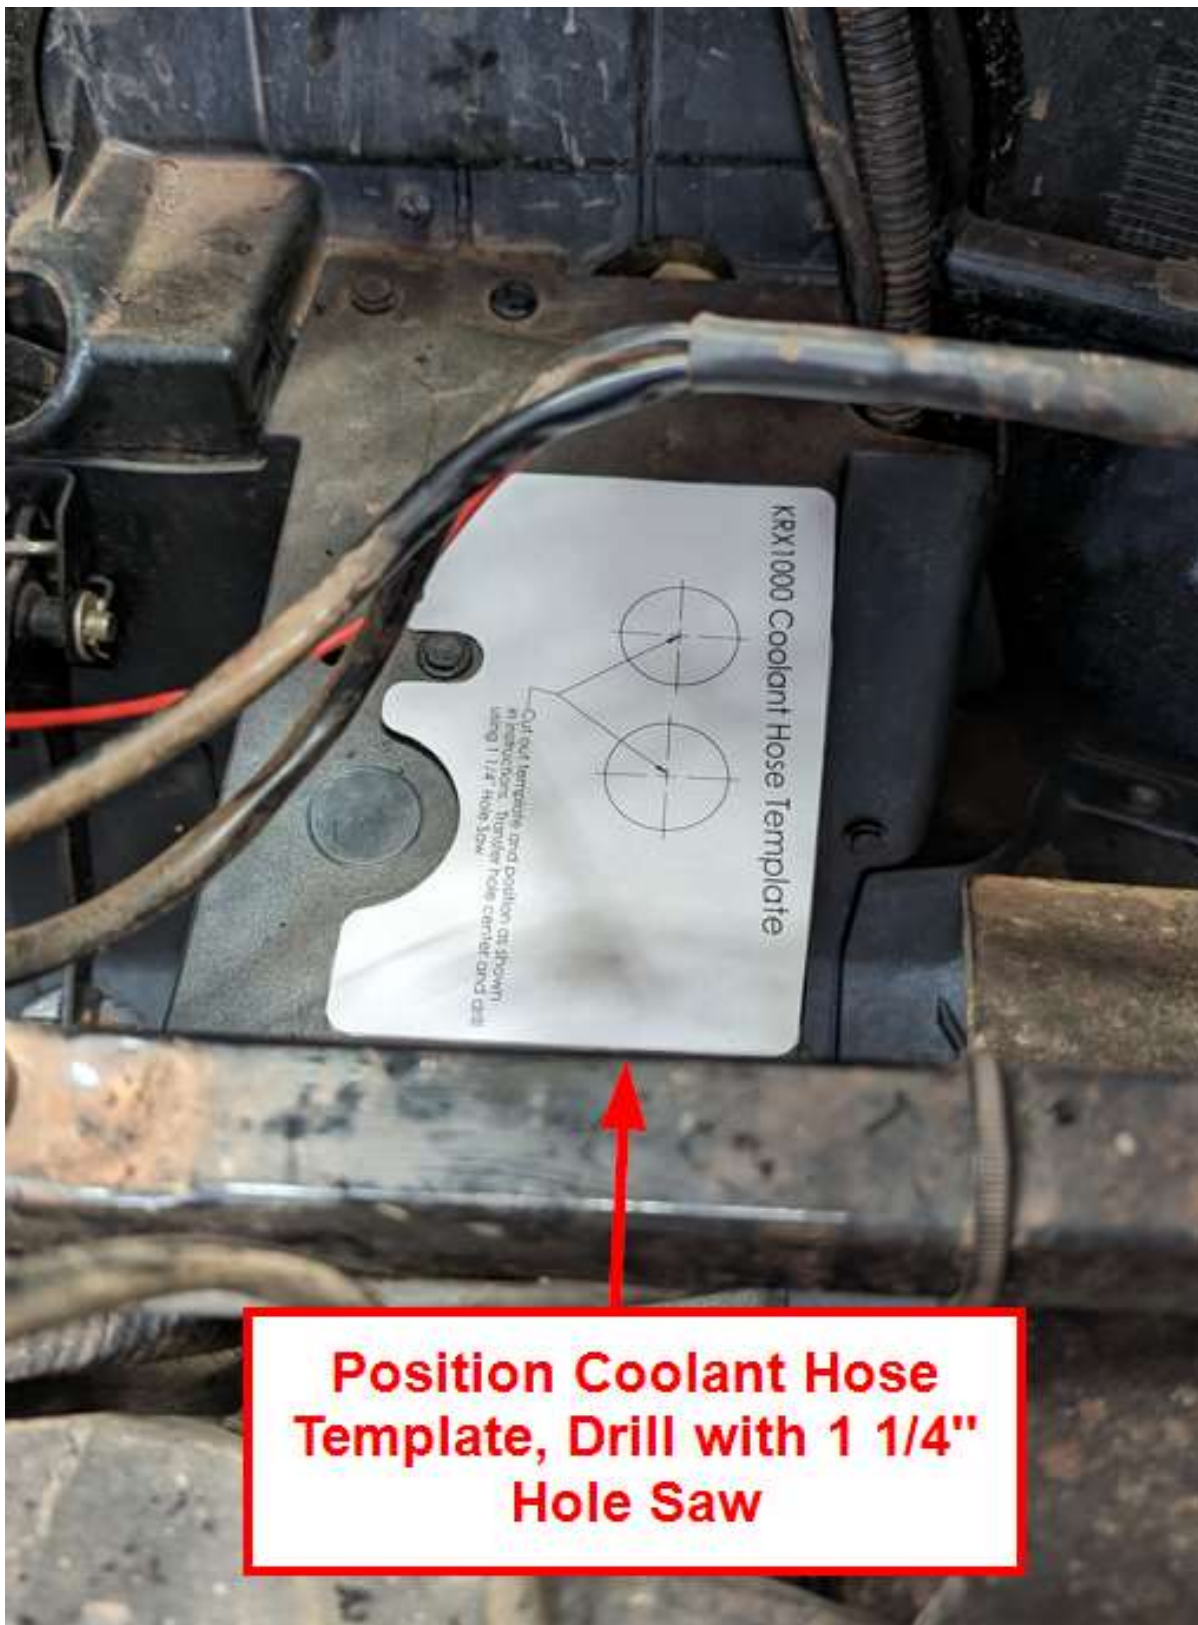

Figure 7
- e. Position the Coolant Hose Template on the Center Tunnel as shown in Figure 7. Transfer the Hole Centers and drill using the 1 ¼" Hole Saw Debur if needed.